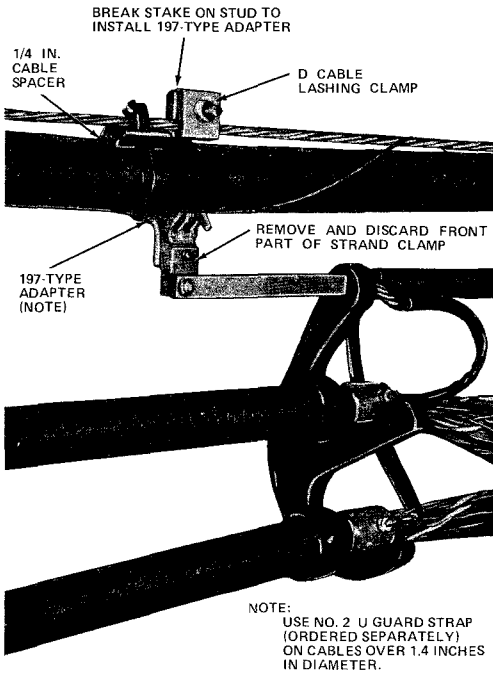

Fig. 13—197A Adapter Installed
4.02 Where more than one cable is lashed to a strand, the 197A adapter must be used as shown in Fig. 13. Assemble the 197A adapter on the support bar of the 18-type cable closure before centering the assembly over sheath opening.